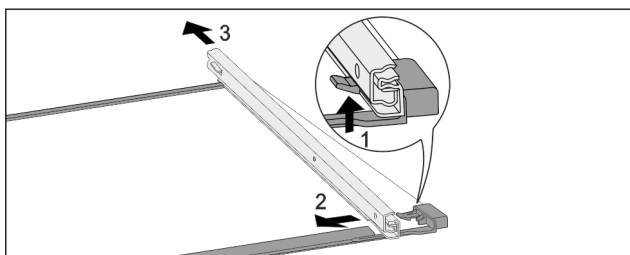

Fig. 181 Glass shelf with rails
- Push up front click-in hooks. Fig. 181 (1)
- Move the pull-out rails to the side Fig. 181 (2) and to the rear Fig. 181 (3).